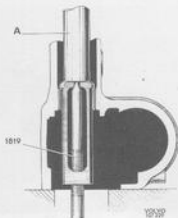

Fig. 6-83. Removing needle bearing
3. Check the needle bearings in the housing and the cover for damage. Replace if necessary. For removal, use tool 1819 (Fig. 6-83) and for pressing in, drift 2995 and handle 1801 (Fig. 6-84).